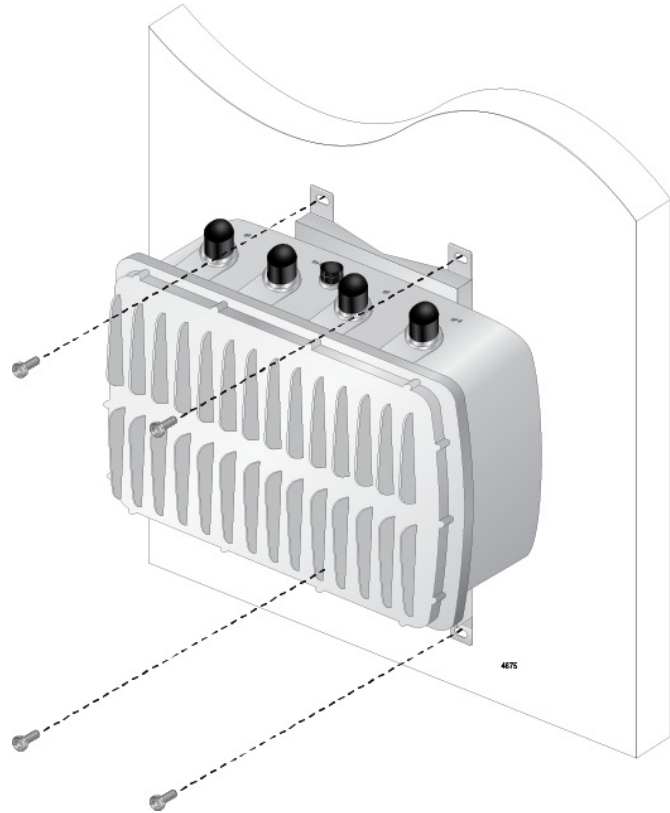

Figure 25. Attaching the Access Point to the Wall
7. Attach the access point to the wall with the provided screws, using a Phillips-head screwdriver. See Figure 25 on page 55.